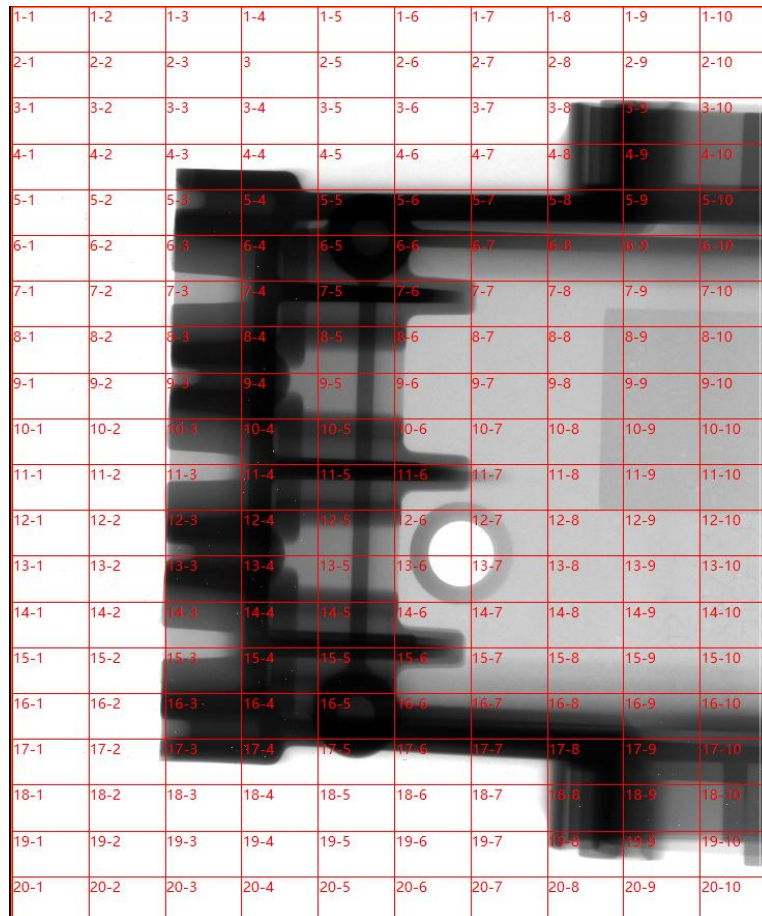

Fig. V-56 Grid Display Effect
The user can open or close the grid display via "Tool (T)" -> "Mesh" -> "Display" in the menu bar. See Fig. V-56 for grid display effect. Grid notes (text displayed in the upper right corner) can be customized.